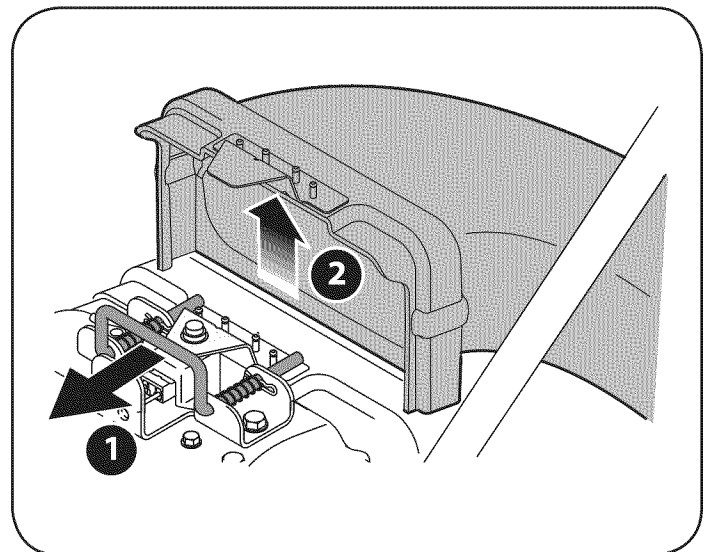

Figure 17
1. Grasp blower chute with one hand and pull lock rod on mounting bracket with other hand toward engine to release. Refer to Figure 17.